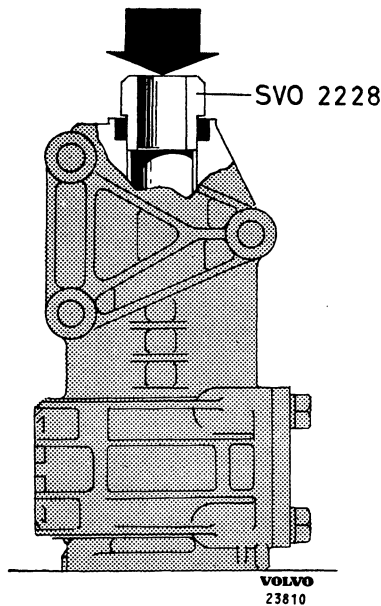
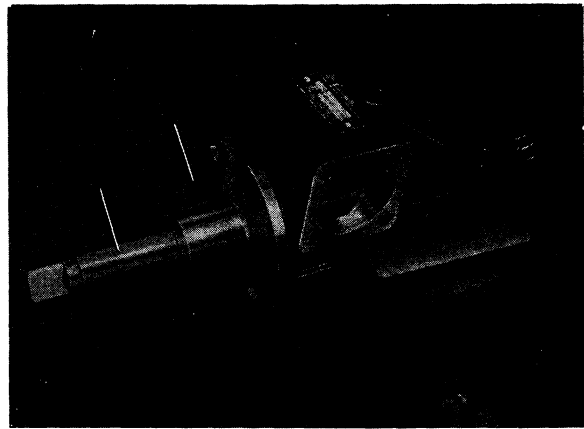

Fig. 6-40. Fitting pitman arm shaft bush
Fig. 6-41. Reaming pitman arm shaft bushes
1. From each direction press in the pitman arm shaft bushes with drift SVO 2228 and standard handle SVO 1801, see Fig. 6-40. Ream the bushes with reamer SVO 2225. Use tool SVO 2254, which is fixed to the housing by means of two bolts, see Fig. 6-41. Clean the housing carefully from metal filings after the reaming.